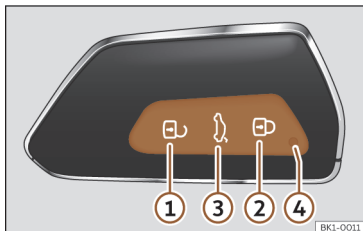

Fig. 65 Vehicle key
When a button is pressed briefly on the vehicle key, the control lamp ④ >>> Fig. 65 flashes once briefly, but if pressed for a long period of time, it will flash several times, for example, when using the comfort opening.